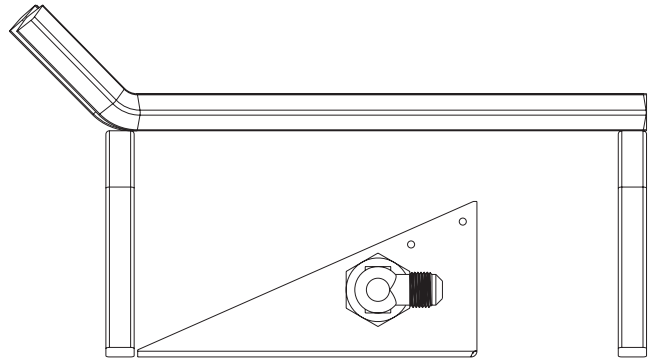

Figure 2
2. Set the burner such that the tube sits in center of the grate, front to back. **See Figure 2.**